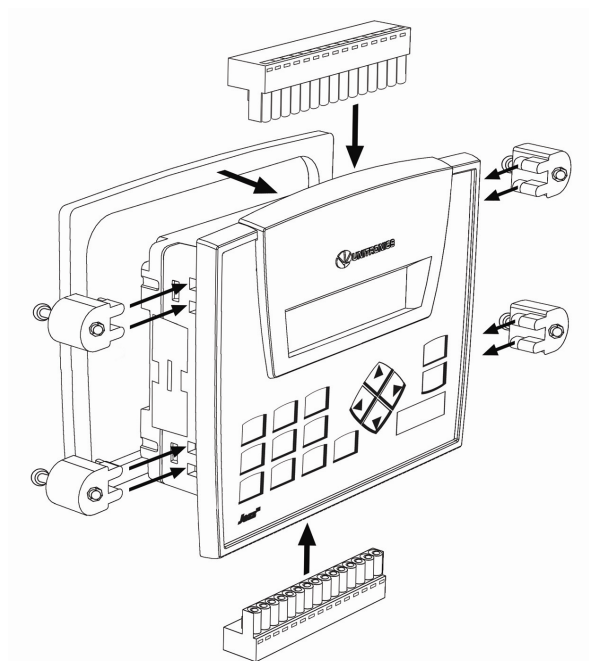

Figure 2. Jazz™ OPLC™, Connectors, Brackets, and Gasket
Before you begin installation procedures, check the Jazz™ OPLC™ package contents. Standard packages contain the Jazz™ OPLC™, green plastic plug-in connectors and 4 mounting brackets, each with a screw inserted for panel mounting. These elements are illustrated in Figure 2 below. The kit also includes a gasket that you should seat in back of the operating panel before panel-mounting the unit. Note that keypad slides are already inserted behind the operating panel's faceplate.
4. Push the mounting brackets into their slots on the sides of the controller as shown in Figure 2, page 15.